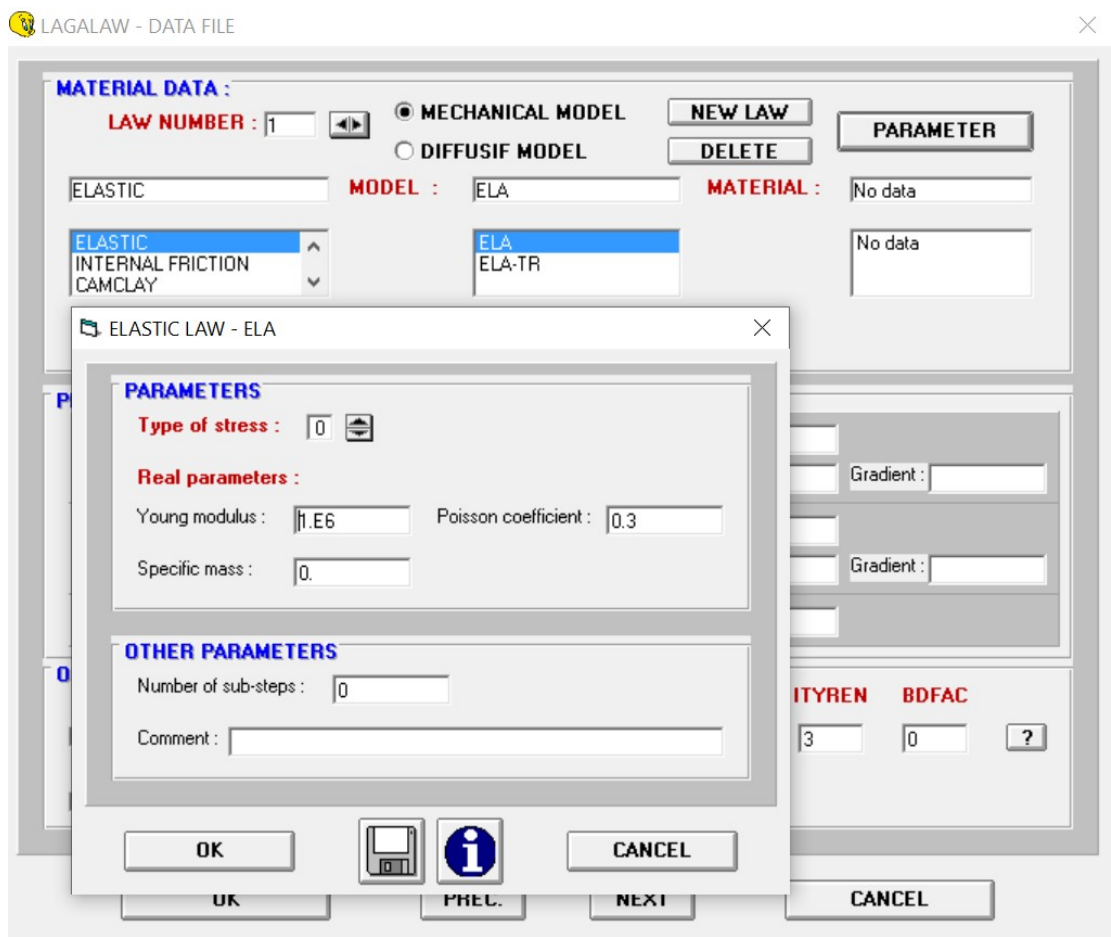

Figure 9.5 Parameters used for Ela.
1. Use a *ELA* model for the mechanical law of the *PLXLS* elements. Enter the parameters as shown in Figure 9.5. Namely, **Data** → **Lagalaw** → **ELASTIC** → *ELA* model for the mechanical law of the *PLXLS* elements. Enter the parameters by clicking **Parameter** then filling the table as shown in Figure 9.5. Click OK.